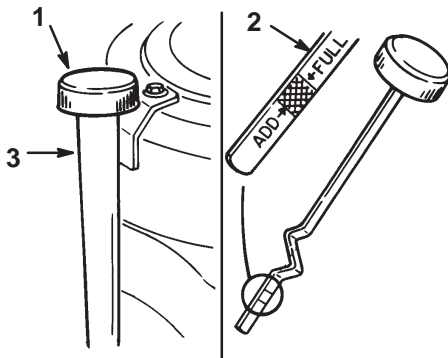

Figure 18
2. Clean around the oil dipstick (Fig. 18) so dirt cannot fall into the filler hole and damage the engine.
3. Unscrew the oil dipstick and wipe the metal end clean (Fig. 18).
4. Slide the oil dipstick fully into the filler tube, do not thread onto tube (Fig. 18). Pull the dipstick out and look at the metal end. If oil level is low, slowly pour only enough oil into the filler tube to raise the level to the “FULL” mark.
5. Slowly pour approximately 80% of the specified amount of oil specified, page 21, into the filler tube (Fig. 18). Now check the oil level; refer to Checking Oil Level, page 22. Slowly add additional oil to bring to “FULL” mark on dipstick.